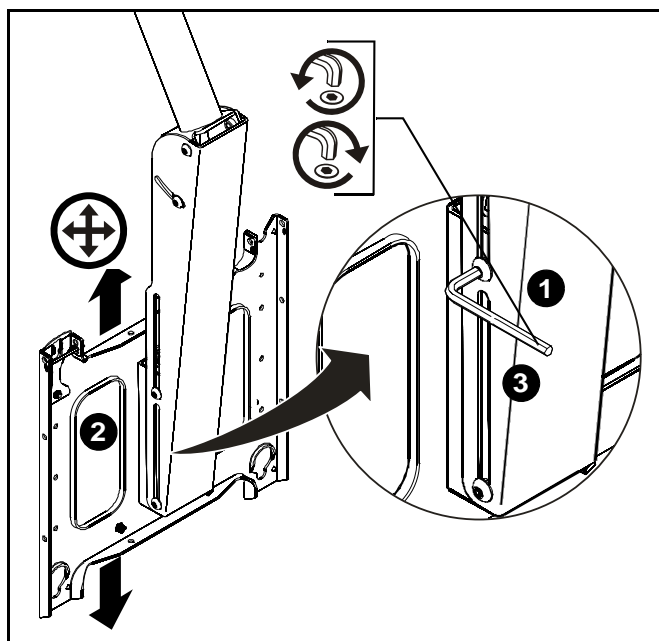

Figure 6
1. Loosen four 5/16-18 button head cap screws using 3/16" hex wrench (C). (See Figure 6)
2. Adjust faceplate to desired position. (See Figure 6)
3. Tighten four 5/16-18 button head cap screws using 3/16" hex wrench (C). (See Figure 6)